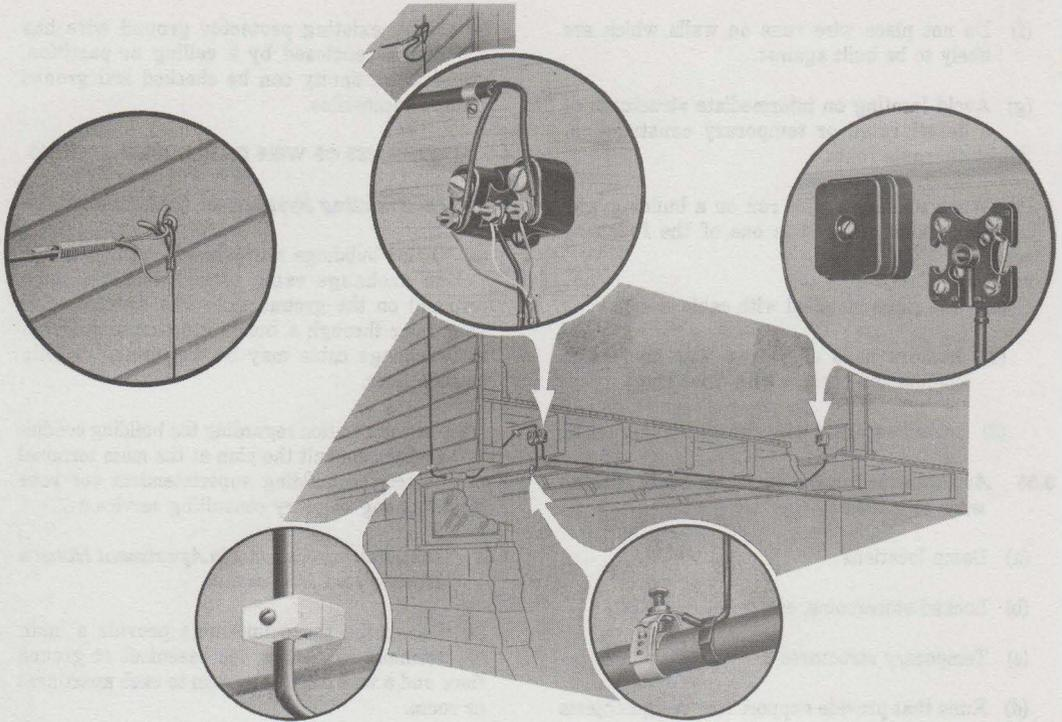

Fig. 4—Typical Wiring Routes
- (1) In finished buildings, such as apartment houses, multi-unit dwellings, or other living quarters, if the service installed is for 0-1 key service, keyless stations, or extensions from PBX-type service
- (2) When service orders have been issued in advance, pending the availability of facilities to connect service.
3.02 Fig. 4 and Table A show various points which should be considered when selecting routes for wire and cable.◀